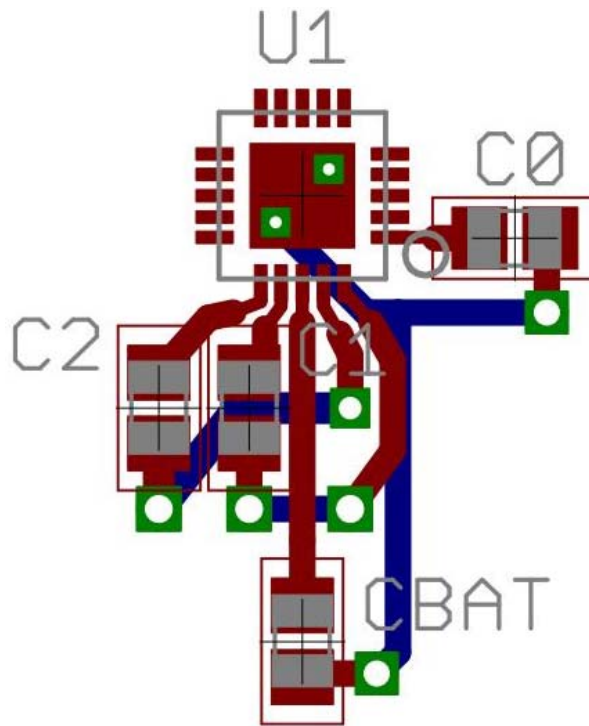

Figure 17.  $C_0$ ,  $C_1$ ,  $C_2$ , and  $C_{BAT}$  Layout Recommendation
5. Charge pump capacitors  $C_0$ ,  $C_1$ ,  $C_2$ , and decoupling capacitor  $C_{BAT}$  should be as physically close to the NCP1840 as possible – see Figure 17.